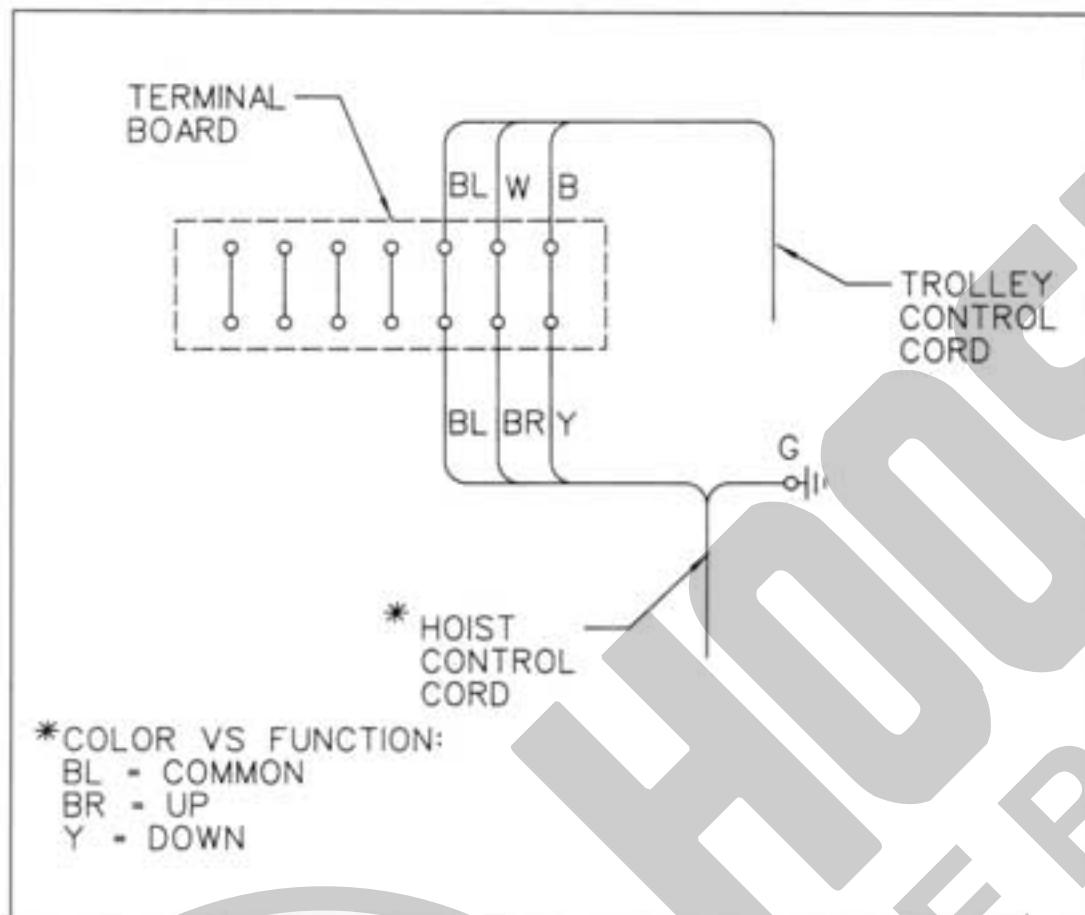

FIGURE 4. HOIST CONTROL CORD CONNECTIONS
*Connect the brown, yellow and blue wires to the terminal board as shown in Figure 4. Loosen one of the screws used to attach the terminal board or transformer to the control box. Firmly crimp a spade type terminal (from the wiring kit) to the end of the green wire and slide the terminal under the head of the screw. Firmly tighten screw to insure proper ground.